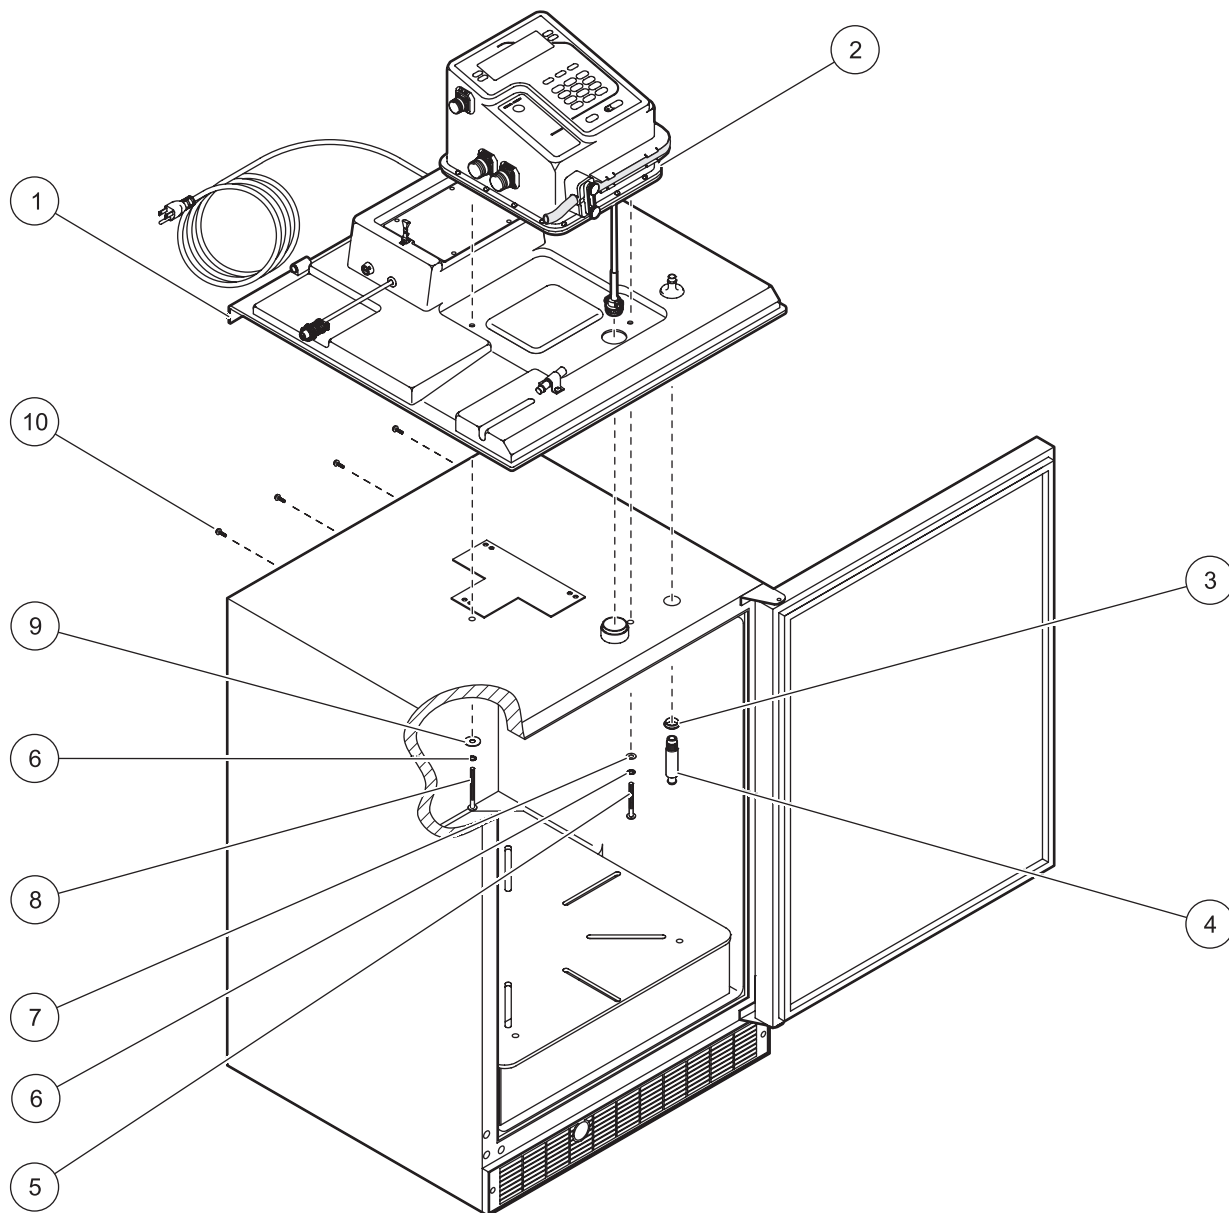

Figure 6 Transition plate removal from the refrigerated sampler
7. Remove the two screws from inside the refrigerator that secure the controller (Figure 6). Discard the screws.
9. Remove the extension fitting grommet from the inside of the refrigerator (Figure 6).